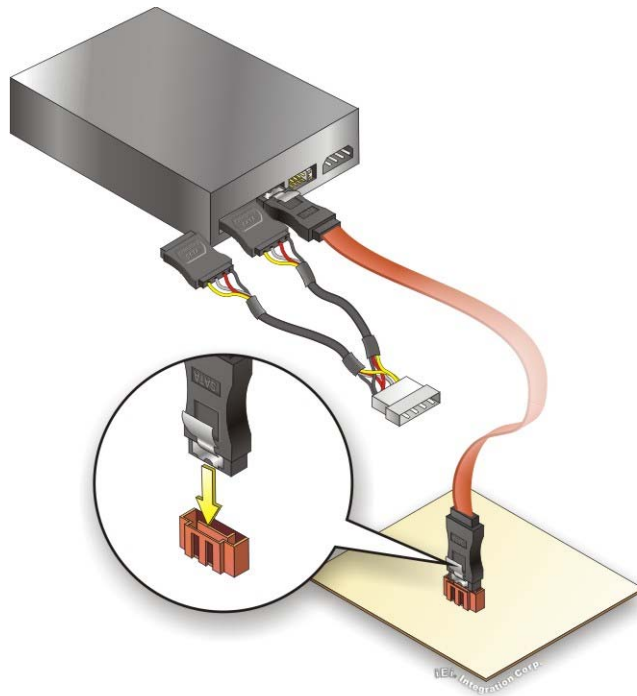

Figure 4-14: SATA Power Drive Connection
Step 3: **Connect the cable to the SATA disk.** Connect the connector on the other end of the cable to the connector at the back of the SATA drive. See **Figure 4-14**.
Step 4: **Connect the SATA power cable.** Connect the SATA power connector to the back of the SATA drive. See **Figure 4-14**.